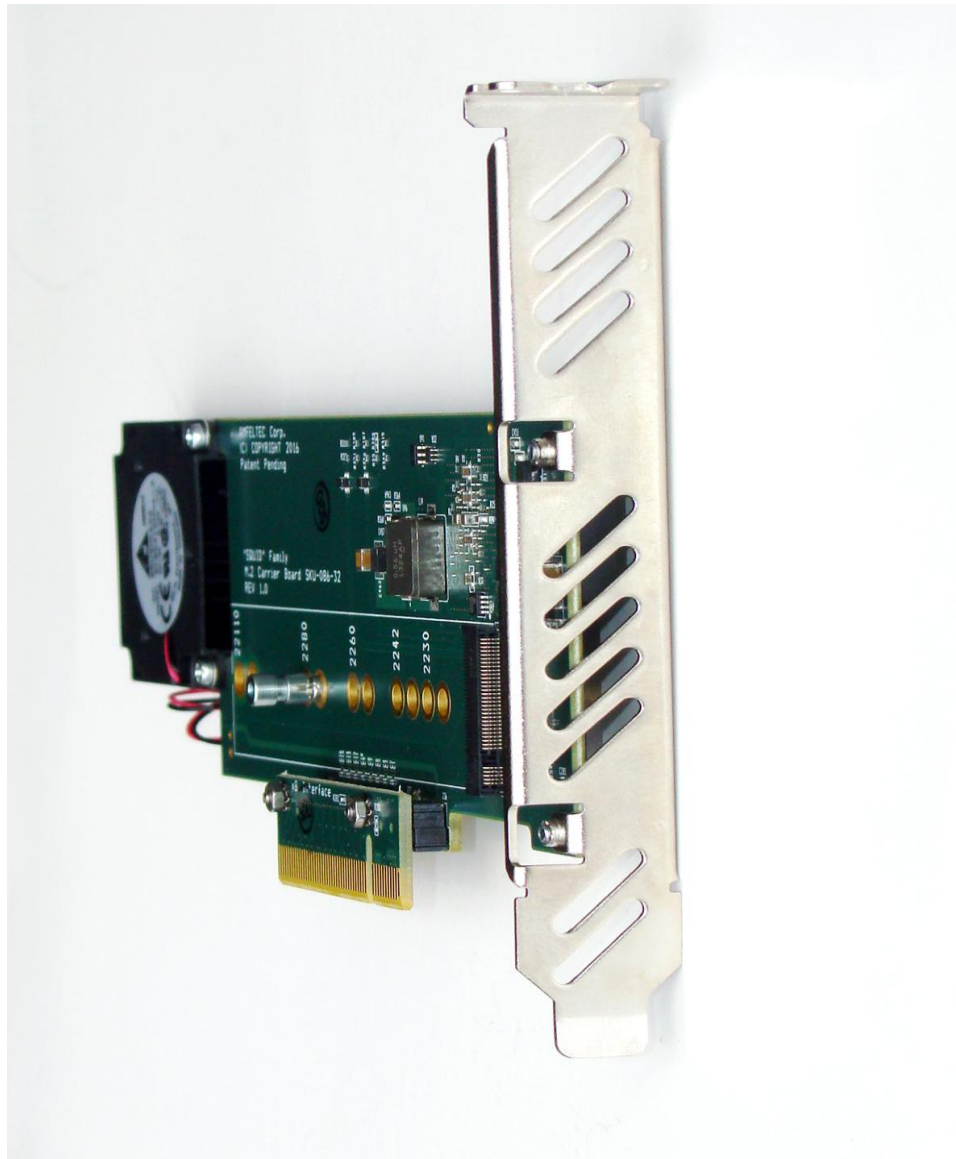

Figure 1: PCI Express Gen 3 Carrier Board for 2 M.2 SSD modules
1. PCI Express Gen 3 Carrier Board for 2 M.2 modules (Figure 1,2,3)